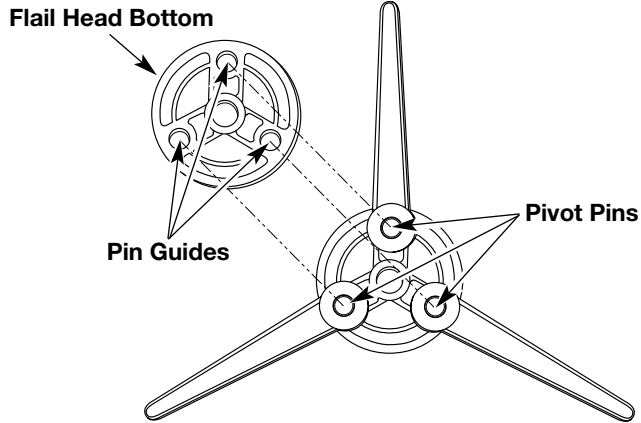

Fig. 7
3. Press the Flail Head Bottom on by matching the pin guides with the Pivot Pins (Fig. 7).